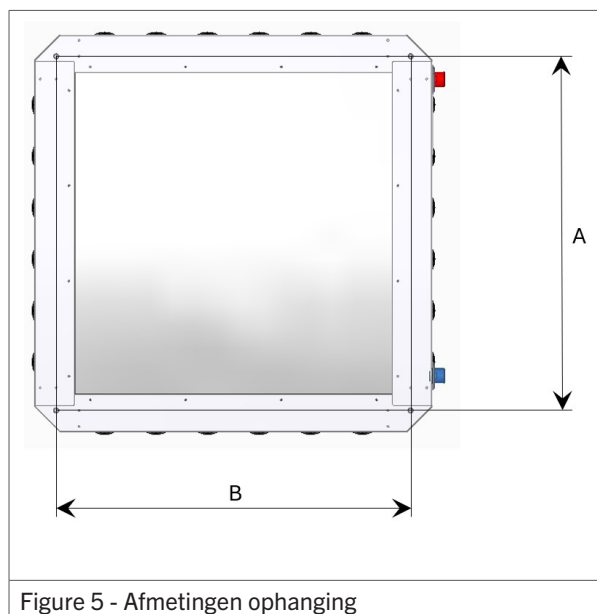

Figure 5 - Afmetingen ophanging
This can be done via the 6-pole connector, see figure 5. In case of an external 0-10V power source, only GND (0V) and 0-10V (IN) need to be connected. If there is no external power source available, the 10V (OUT) can be used, combined with a voltage regulator (potentiometer), like GA3955. If two or more heaters are controlled by a single regulator, make sure only ONE 10V (OUT) source is used.